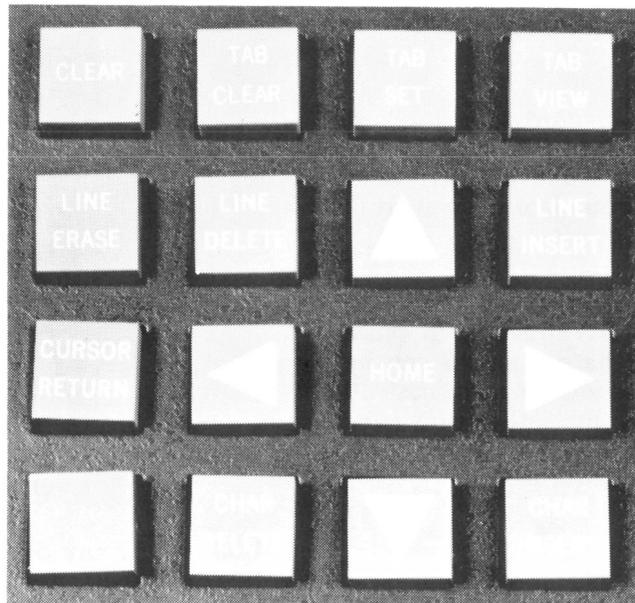

Figure 5 - Editing Cluster
4.13 Check that the following editing functions are performed correctly by the editing cluster (Figure 5).